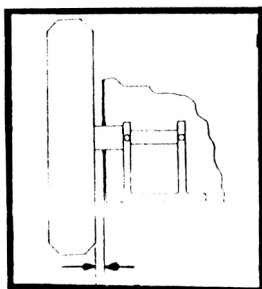

Figure 9
4. If the turbine is not running freely see that the generator is not touching the windshaft housing. If this is the problem remove the inspection cover. Reposition the hub so that it can rotate freely and tighten the two bolts, locking the shaft into position (Fig.9).